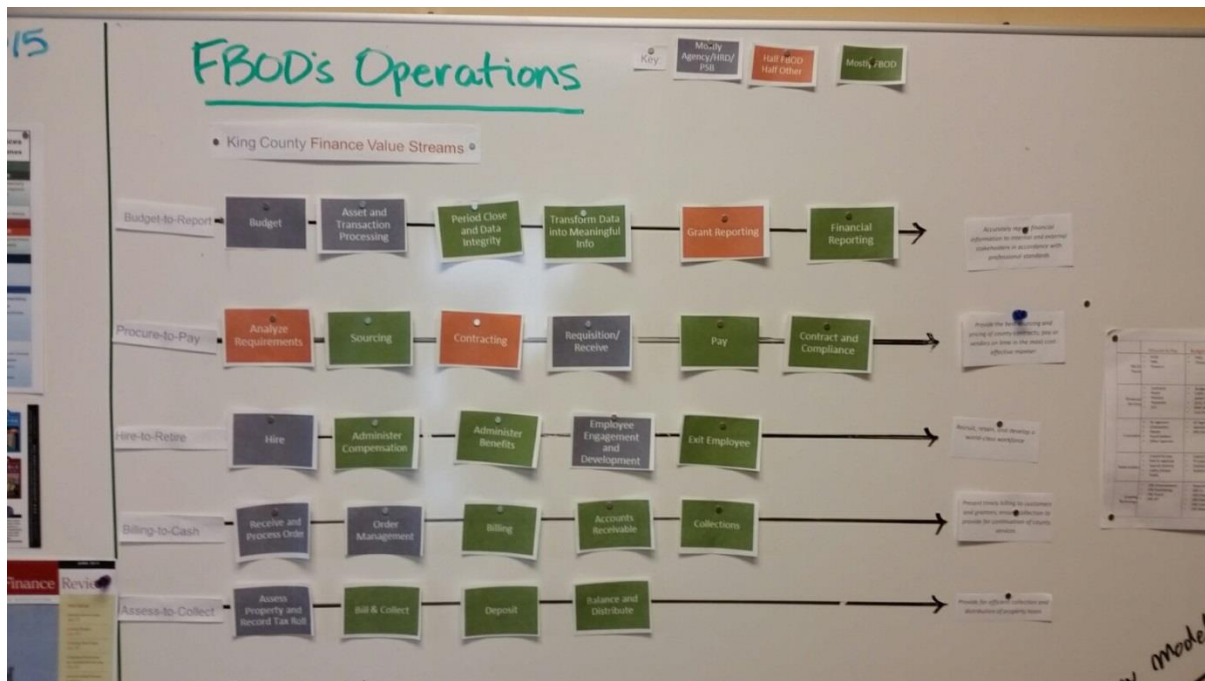

Figure 12
- Shows clear value streams with role distinctions (Figure 12)